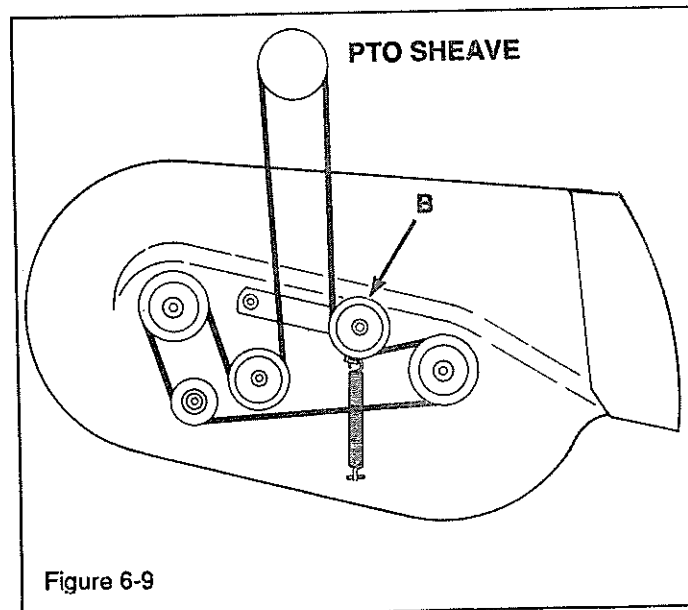

Figure 6-9
- Remove mower drive belt from the drive (PTO) sheave by pulling idler (B, Figure 6-9).
- a. Install belt onto sheaves and pulleys as shown in Figure 6-9.